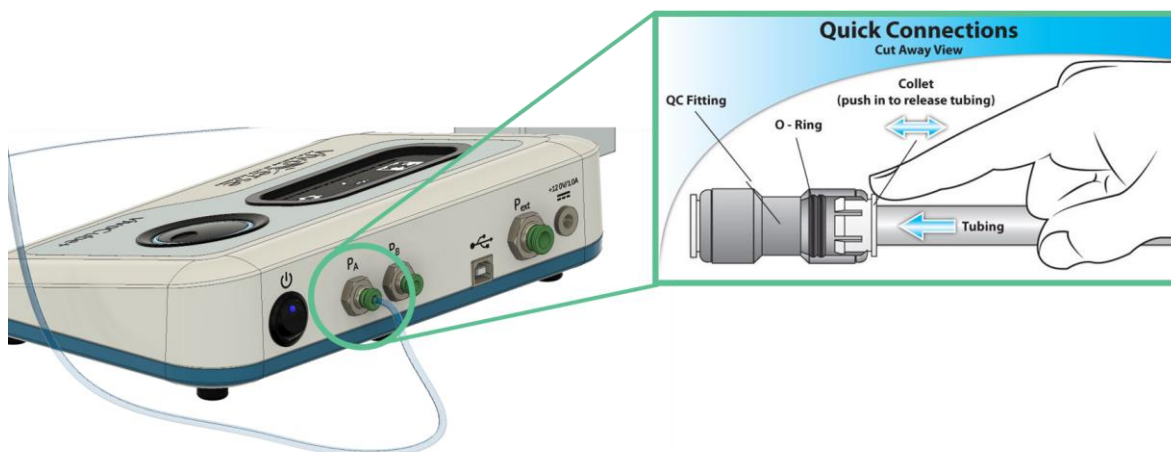

Figure 8: Rear panel of the vivoCube+ with diagram of push-to-connect fitting operation
- Insert the end of the air tubing into the one of the ports on the rear of the vivoCube+ (P_A or P_B , shown in Figure 8), firmly pushing the tubing into the green fitting.